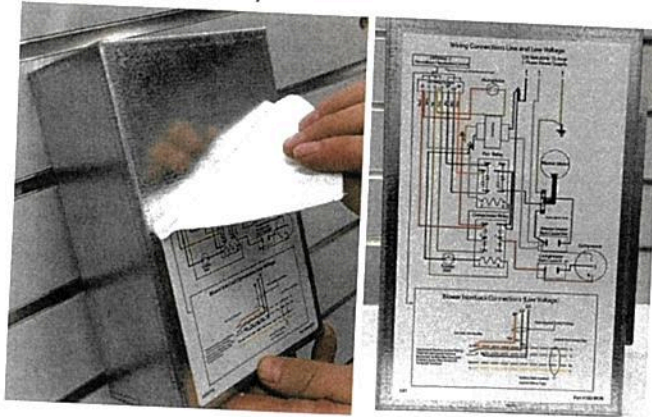

Figure 14
Step 15 – Remove the old electrical diagram on the cover by peeling it off; replace it with the new diagram from the kit. Use the new diagram to make sure the wiring is correct (Figure 14).